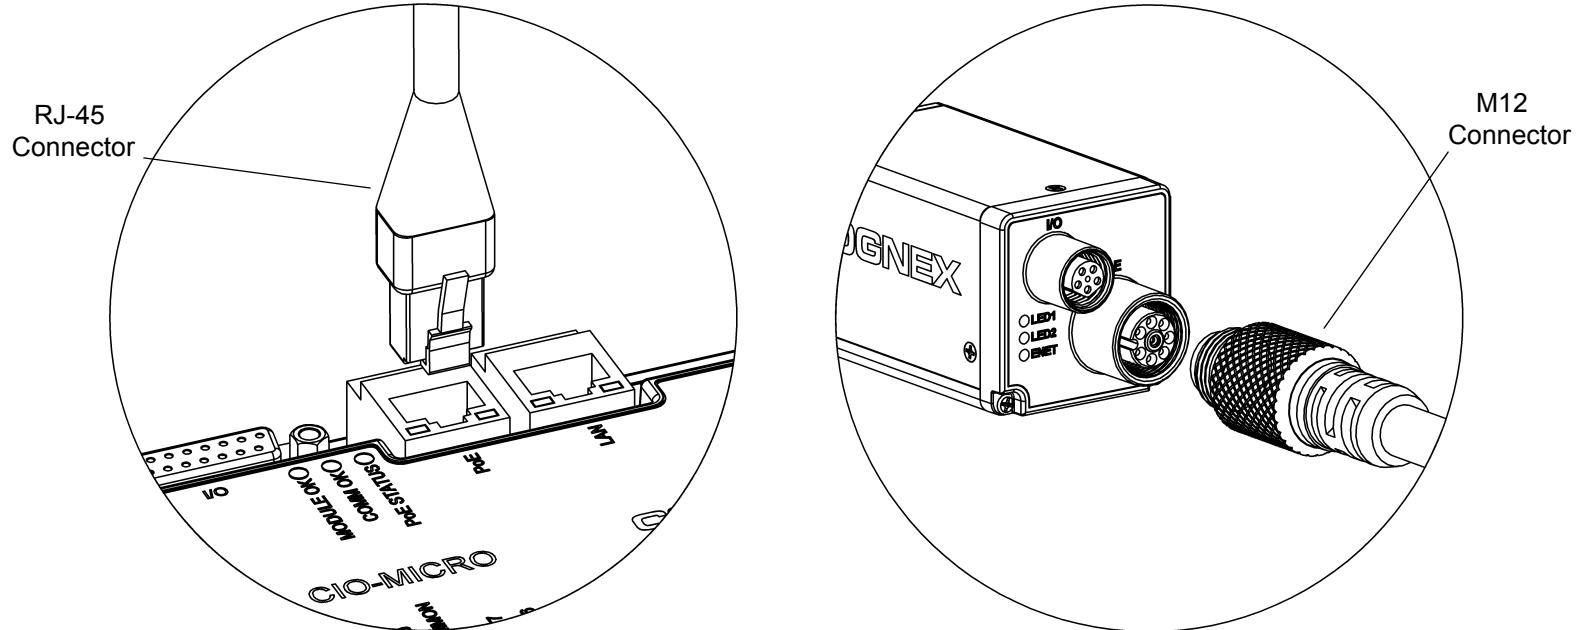

Figure 2-4: Connecting the Ethernet Cable to the I/O Module and Micro Vision System
- a. Provide Ethernet and power to the Micro vision system by plugging the Ethernet cable's RJ-45 connector into the I/O module's PoE RJ-45 port, as shown in Figure 2-4, and connecting the Ethernet cable's keyed M12 connector into the In-Sight Micro vision system's PoE port, as shown in Figure 2-4.
- a. Plug the Ethernet cable's RJ-45 connector into the I/O module's PoE RJ-45 port, as shown in Figure 2-4, and connect the Ethernet cable's keyed male M12 connector into the In-Sight 5600 series vision system's Ethernet port, as shown in Figure 2-4.